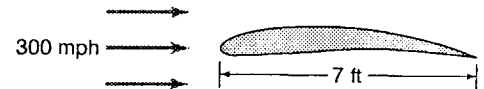

Figure P9.13
9.13 An airplane wing with a chord length of 7 ft parallel to the flow moves through standard atmospheric air at an altitude of 15,000 ft with a speed of 300 mph (Fig. P9.13). Find (a) the critical roughness for a point one-tenth the chord length back from the leading edge; (b) the surface drag on a 25-ft span section of this wing.